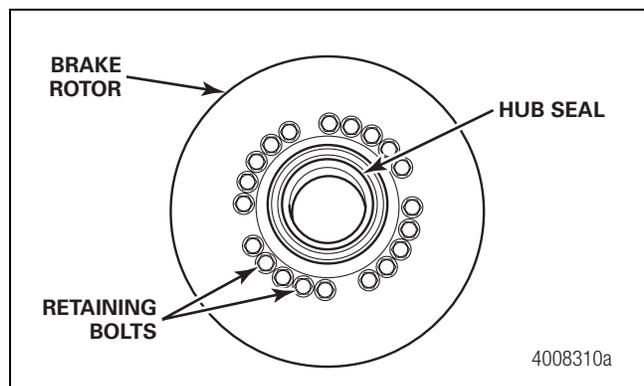

Figure 3.10
1. Remove the rotor mounting bolts and remove the rotor from the hub. Figure 3.10.